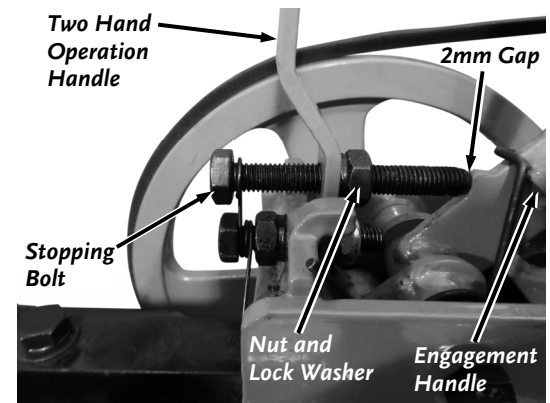

Figure 18
7. Check the gap at the end of the Stopping Bolt and the Engagement handle (**Figure 18**). The gap should be approximately 2mm. If the gap needs adjustment, hold the head of the Bolt using a 17mm Wrench and loosen the Nut using another 17mm Wrench. Adjust the Bolt as needed to correct the gap and retighten the Nut against the Two hand Operation Handle.